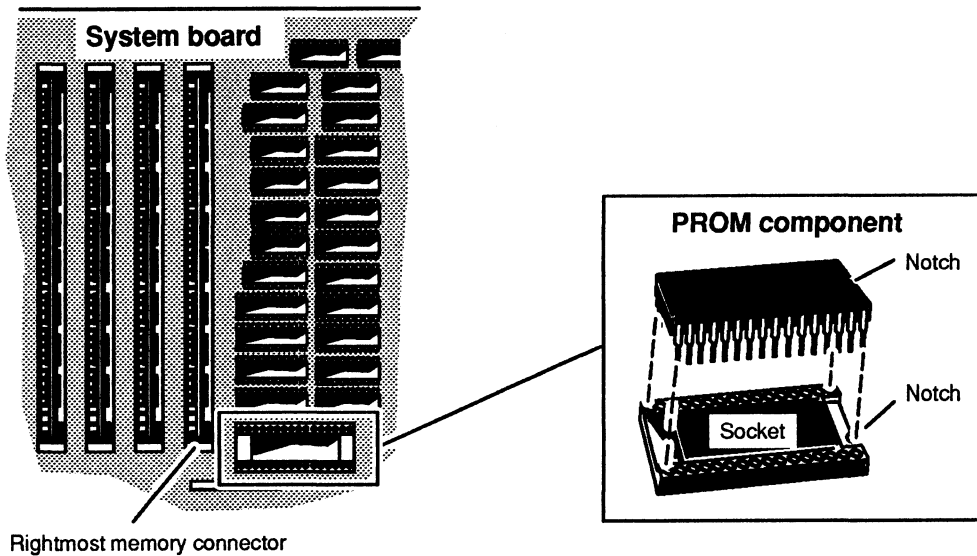

Figure 5-9 Installing the PROM Component
2. Matching the notch on the PROM component with the notch on the socket, on the replacement system board, align the pins of the PROM component with the holes in the socket as shown in Figure 5-9, and insert the PROM component into the socket.